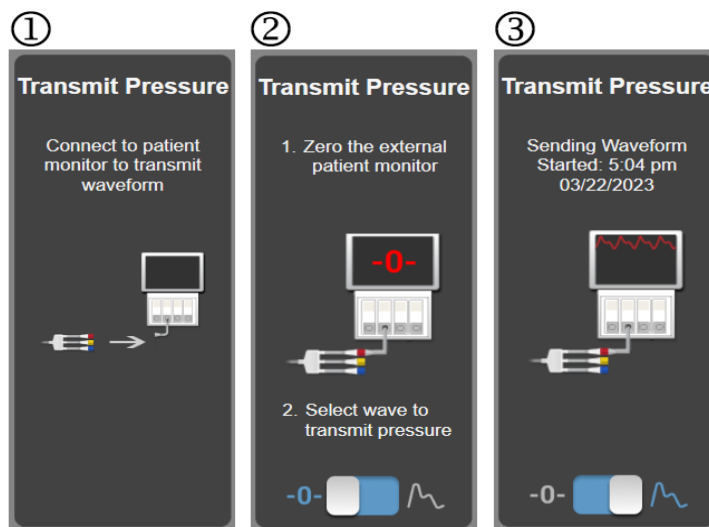

Figure 11-13 Transmit arterial pressure waveform to patient monitor
- 4 Zero patient monitor and confirm 0 mmHg is displayed. See ② in figure 11-13. Refer to the patient monitor instructions for use.
- 5 Toggle to the **Transmit Waveform** icon  to begin pressure signal output to the patient monitor. See ③ in figure 11-13.
- 6 A “**Sending Waveform Started:**” message with the timestamp is displayed when the live waveform is being transmitted to the connected patient monitor. See ③ in figure 11-13.